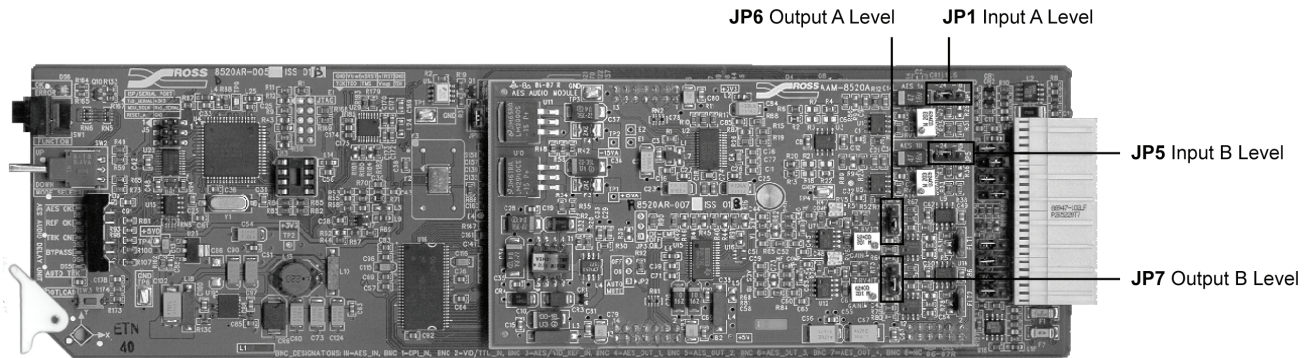

Figure 15. AAM-8520A Card Installed on ADL-8520A (configured as 8520A-B model)
5. Select the coarse analog audio input level -18 or -24dB for each channel using **JP1** and **JP5**. These jumpers put the available headroom of the A/D Converter in the -24dBFS or -18dBFS range. Refer to **Figure 15** for jumper locations.
6. Select the coarse analog audio output level +18 or +24dB for each channel using **JP6** and **JP7**. Refer to **Figure 15** for jumper locations.